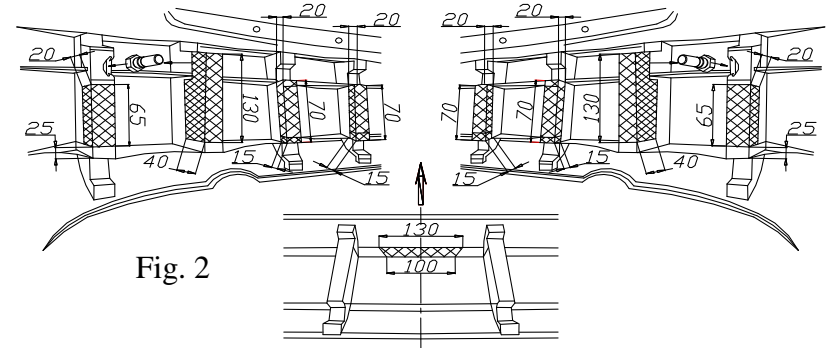

Fig. 2
2. Cut out inside fragments of the bumper according to figure 2.
3. Put main bar of the towbar (pos. 1) into chassis members and fix by bolts M10x35mm (pos. 6), use big washers (pos. 8).
5. Fix tow-ball (pos. 2) and socket plate (pos. 3) using bolts M12x75mm (pos. 4) and M12x70mm (pos. 5) from accessories.